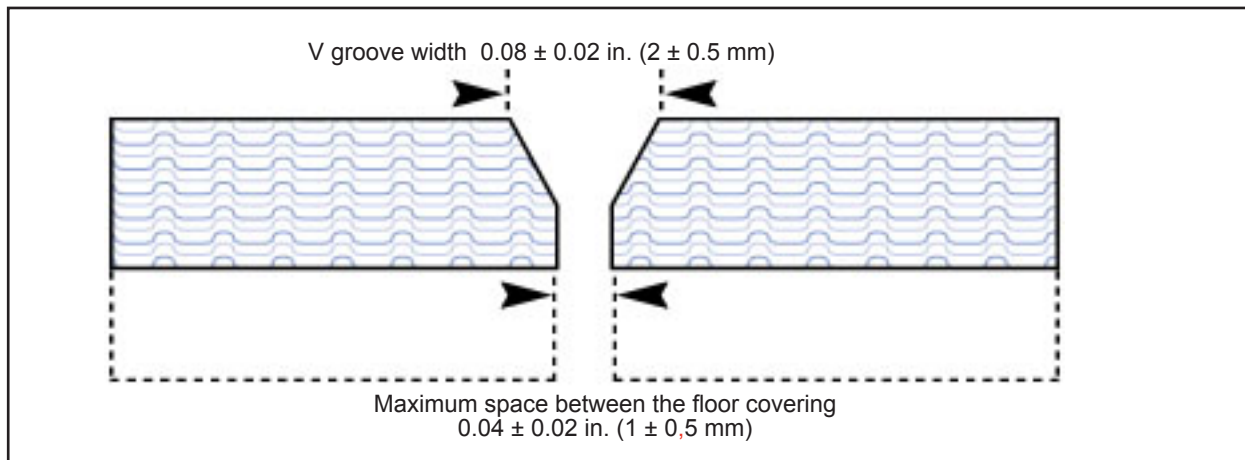

Figure 16 - Recommended Bead Groove
- 2.57. Groove the floor covering joint for the vinyl beads with a 0.08 in. (2 mm) maximum width V-shaped blade tool (see Figure 16).